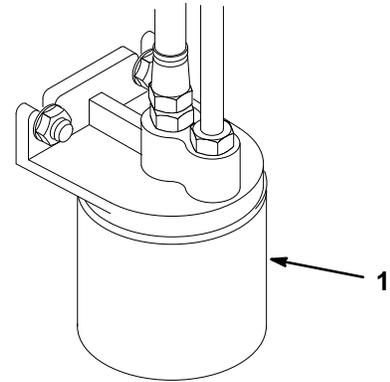

Figure 42
- A. Place drain pan under filter, remove the old filter and wipe the filter adapter gasket surface clean (Fig. 42).